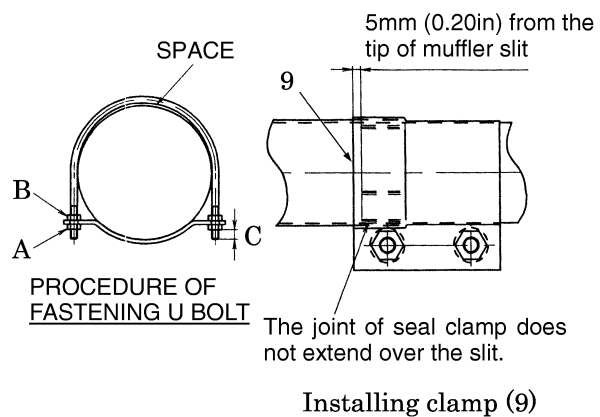

Fig. 10-2 Removing and installing the muffler
(See Fig. 10-2)
- 1) Place the end of clamp (9) 5mm (0.20in) away from the tip of the muffler slit so the joint of clamp does not extend over the slit in the muffler. (See Fig. 10-2.)
- 2) Install the clamp assy (9) in the illustrated direction.
- (3) Tightening torque :